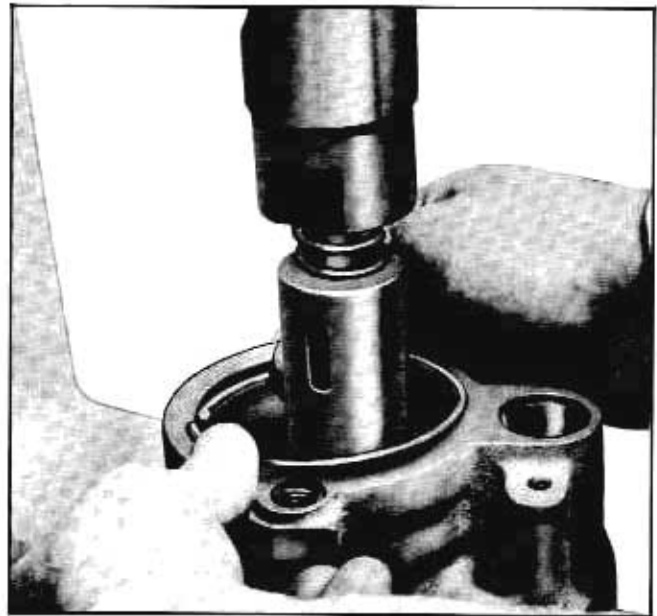

Fig. 9A-25 Installing End Plate
9. Install pressure plate spring in center groove of pressure plate (Fig. 9A-24).